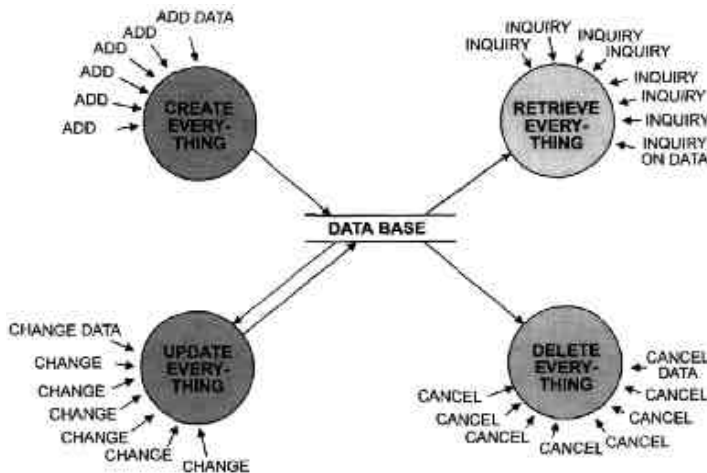

Figure 11 – Bundled Business Events
- For example, we might collect all Create Events (such as “Create New Customer” or “Create New Vendor”) together to form a generalized Create Program. This view, shown in Figure 11, could come from focusing only on data instead of both data and processing together. This is not a specific Business Event view, and if implemented as four design partitions (programs), we would have similar maintenance problems as with the Edit, Update, and Print partitioning.